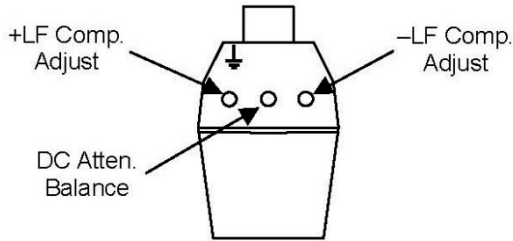

Figure 8,  $\div 10$  Attenuator Adjustment Locations
11. Using the square adjustment tool, adjust the **+LF Comp** (See Figure 8) to achieve the best square corner and flat top of the displayed waveform. Note that the added capacitance of the adjustment tool may change the compensation of the waveform when it is inserted. The correct adjustment is achieved when the best corner is displayed with the adjustment tool removed.
15. The displayed waveform is the common mode feedthrough. Using the adjustment screwdriver with the flat blade, adjust the DC Attenuation. Balance (Figure 8) to minimize the amplitude of the flat portions of the displayed waveform. This adjustment only affects the flat portions of the square wave. Do not be concerned with any overshoot at the transitions.
18. Using the 0.025 in. square adjustment tool, adjust the **–LF Comp** (Figure 8) to minimize the amplitude of overshoot during the transition of the displayed waveform. It may not be possible to completely eliminate the overshoot. As with the +LF Comp adjustment, the added capacitance of the adjustment tool may change the amplitude of the waveform when it is inserted into the adjustment. The correct adjustment is achieved when the overshoot is minimized.